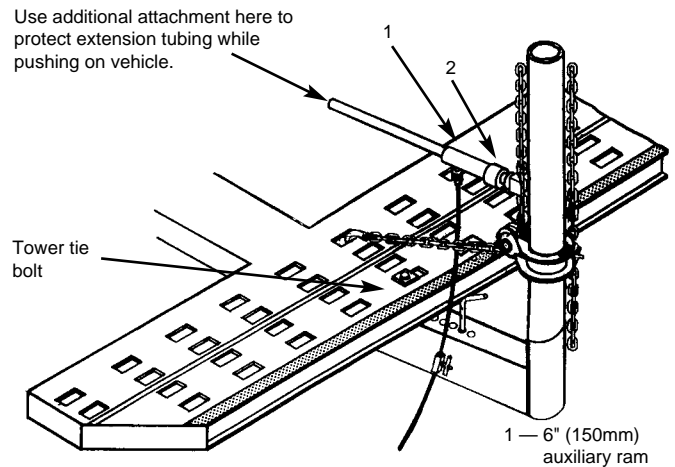

Figure 24
2. Auxiliary ram is used to push from tower to vehicle. (See Figure 24.) Tower will be forced down in this situation unless tower tie bolt is installed.
- 2) DO NOT tip load chain hook when positioning it in tie down hole for Figure 24 setup or any other setup. Figures 25 and 26 show incorrect and correct way to position chain hook in tie down hole.